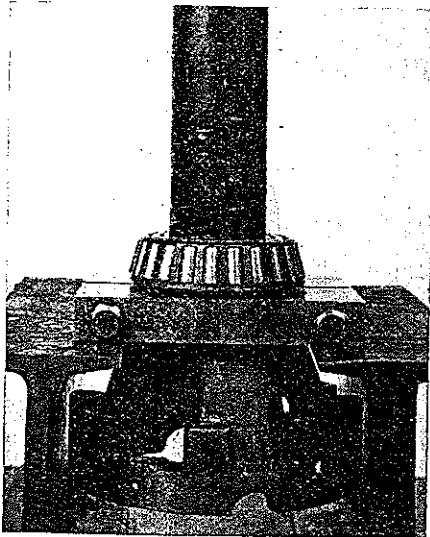

Fig. 161 Remove differential bearings with bearing puller
5. Use bearing puller, Fig. 161, to remove bearings if necessary.